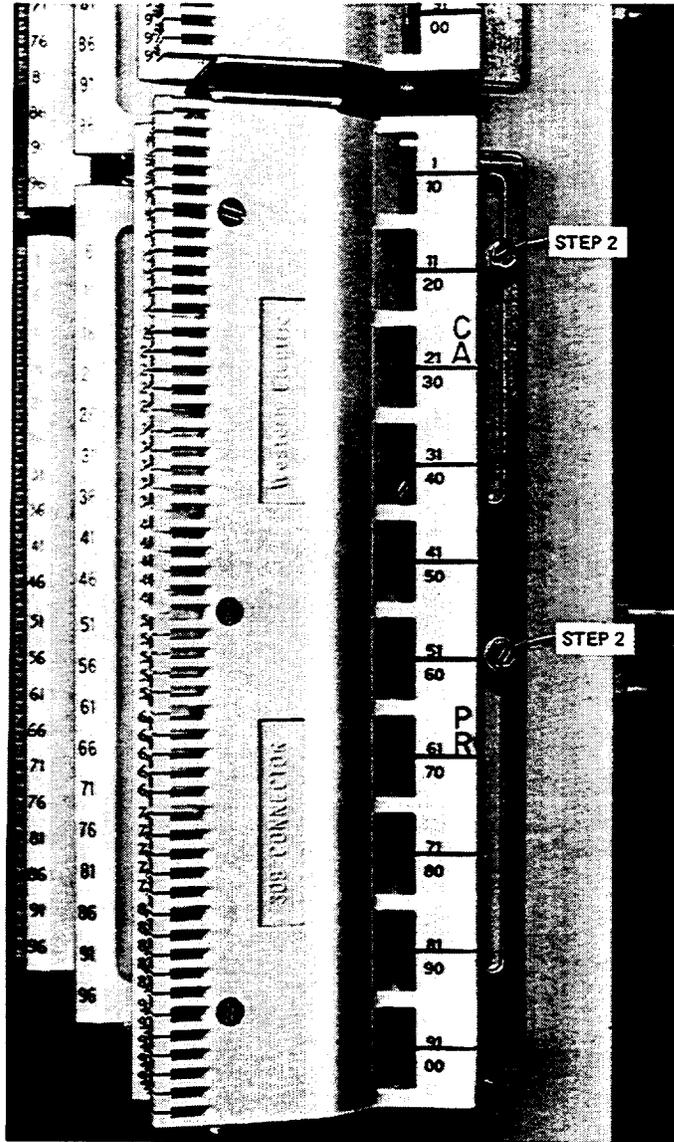

Figure 17—Tightening Screws
(1) See Figure 17 for the number that corresponds to the following step.
(2) While pushing up on both connectors, tighten the hexagon-head mounting screws on both connectors with a 5/16 inch socket, short extension, and ratchet or screwdriver.